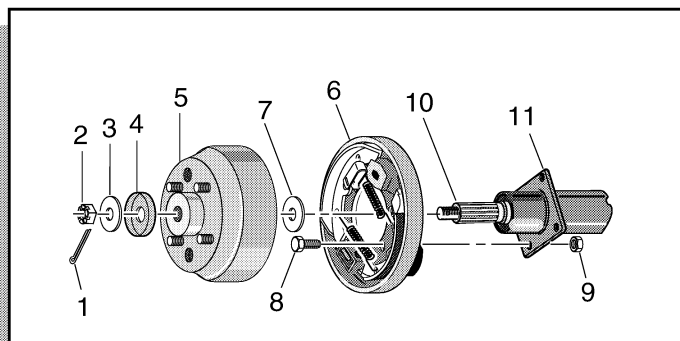

Fig. A-2 Wheel Brake Removal
2. Remove the cotter pin (1), axle nut (item 2, 1 1/8" socket), washer (3), and cup washer (4) (if present) from the right side axle shaft (Ref Fig. A-2 on page A-2).
3. Pull the brake drum (5) from the axle (10), and remove the washer (7) (Ref Fig. A-2 on page A-2).
- A. Using a 1/2" socket, remove the four bolts (8) and nuts (9), and detach the brake assembly (6) from the top (passenger) side axle tube (11) (Ref Fig. A-2 on page A-2).